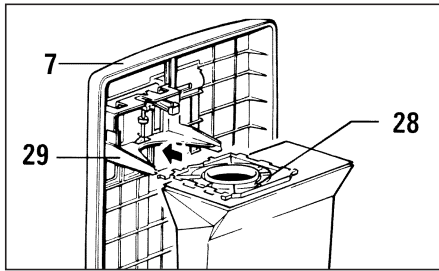

Figure 7
### Changing the Dust Bag - Figure 7
2. Bag not inserted properly.	2. Re-insert bag with cover release flap (5) up, until firmly latched in bag holder ( see pg.8, figure 7).